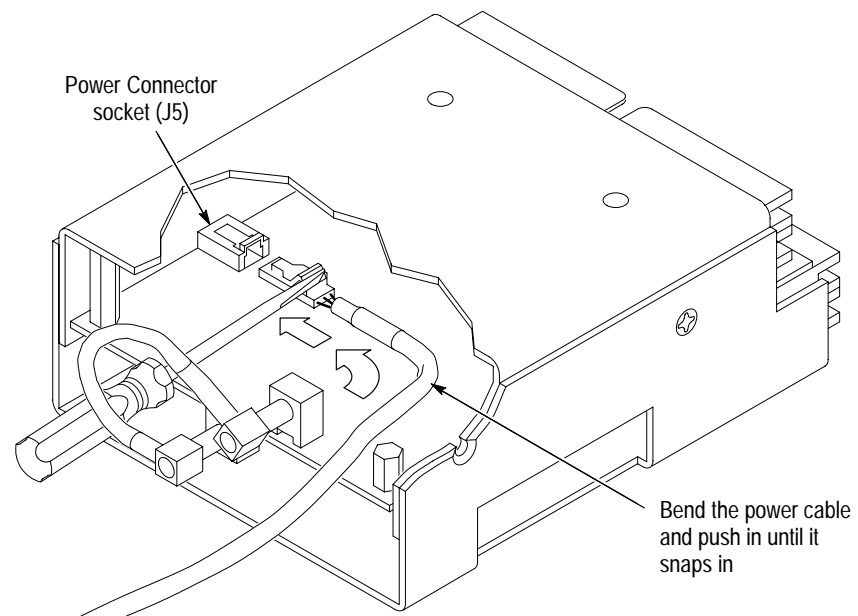

Figure 5: Connecting the Power Cable to the Probe
1. Refer to Figure 5 and connect the probe power cable to the probes (each 92A96 Module can power two P6467).
3. Connect the Probe Power cable from the power connector of one of the 92A96 Modules on the logic analyzer to the power connector on the P6467 Probe (if necessary refer to Figure 5 on page 7 for information on connecting the Power cable).